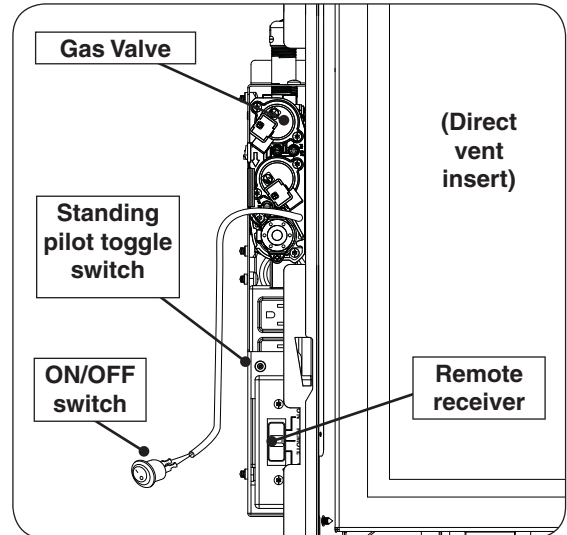
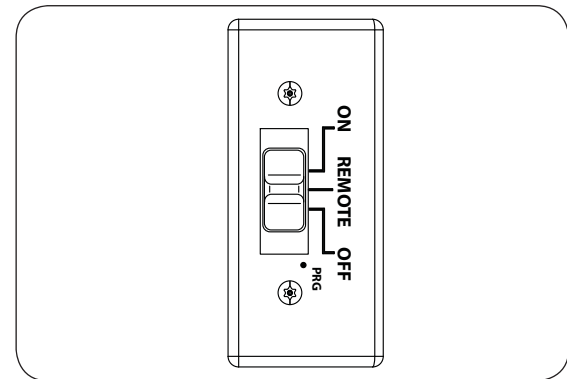
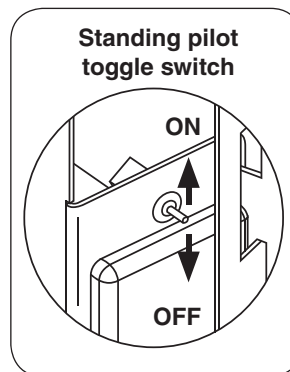
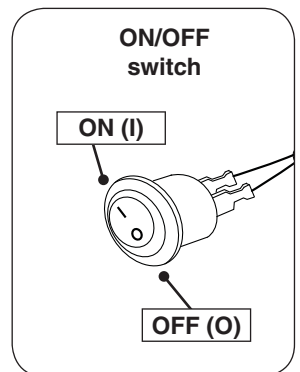

Fig. 28-1 Control box (left side of unit)
Fig. 28-2 Remote receiver detail
Fig. 28-3
Fig. 28-4
1. The control box is on the left side of the unit. Locate the remote receiver on the control box (see Fig. 28-1). Slide the 3-position switch on the receiver to the **REMOTE** position (see Fig. 28-2).
2. Locate the standing pilot toggle switch on the control box (Fig. 28-1). Flip switch to the **ON** position (Fig. 28-3). You will hear a series of clicks and after a few seconds, you will hear sparking at the pilot spark electrode.
5. Locate the ON/OFF switch that is currently coming out of the control box (see Fig. 28-1). Switch it to the **ON (I)** position (see Fig. 28-4).